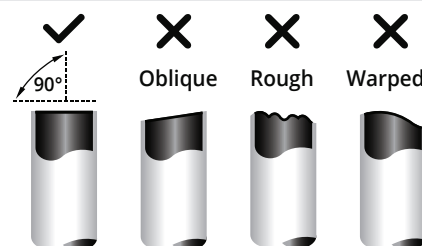

Fig. 7.1
3. Ensure the pipe is cut at a perfect 90° angle. Refer to **Fig. 7.1** for correct and incorrect examples.